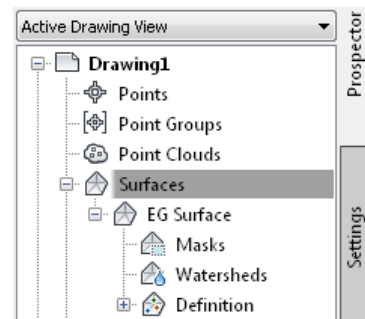

Figure 3-54 The EG Surface added in the Surfaces node of the Prospector tab
4. Now, ensure that the **TIN surface** option is selected in the **Type** drop-down list of the **Create Surface** dialog box and choose the **OK** button; the dialog box is closed, also the surface is created and is added to the **Surfaces** node in the **Prospector** tab of the **Toolspace** palette, as shown in Figure 3-54.